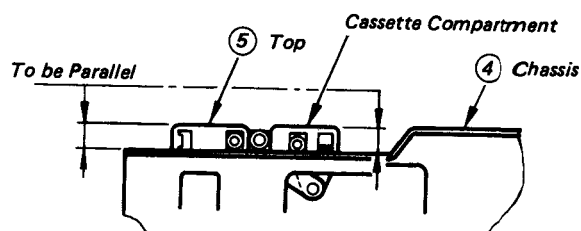

Fig. 5-13 Parallelism of Cassette Compartment Top with Chassis Top
- Check whether the tops of the right-hand and left-hand chassis and the top of the cassette compartment is parallel (see Fig. 5-13).